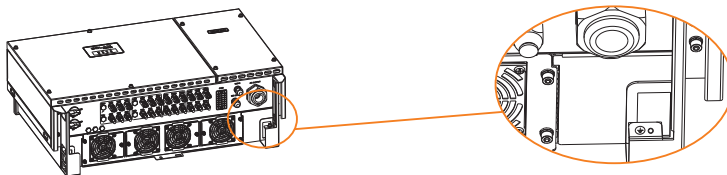

Figure 5.3 Securing the PGND cable
Step 3 Remove the ground screws from the ground points, secure the PGND cable (done by step 1 & 2) using the ground bolts, and tighten the bolts to a torque of 3 N•m using a socket wrench, as shown in Figure 5.3. PE wire must be well grounded to ensure that impedance between Neutral wire and Earth wire be less than 10Ω.